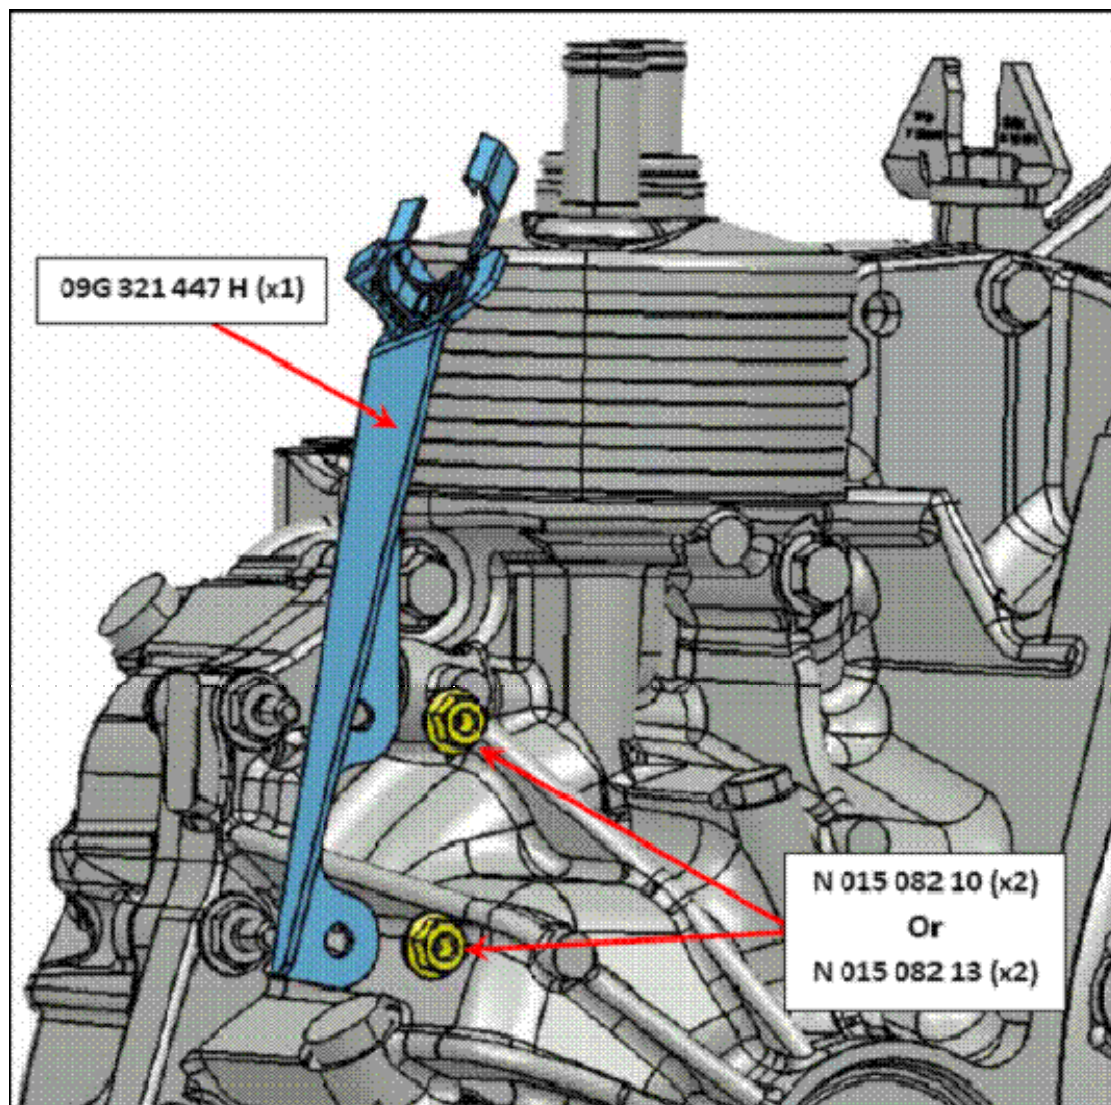

Figure 1
- Replace rear shifter cable bracket Part No. 09G 321 447 H (1) and nuts Part No. N 015 082 10 (2) **Or** Part No. N 015 082 13 (2) as seen in Figure 1.